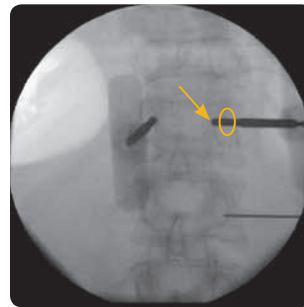

Figure 10
*If the needle within the medial wall of the pedicle at the base and trocar has an oblique trajectory into the body, it may appear medial to the pedicle wall due to the oblique trajectory of the needle (**Figure 10**).*